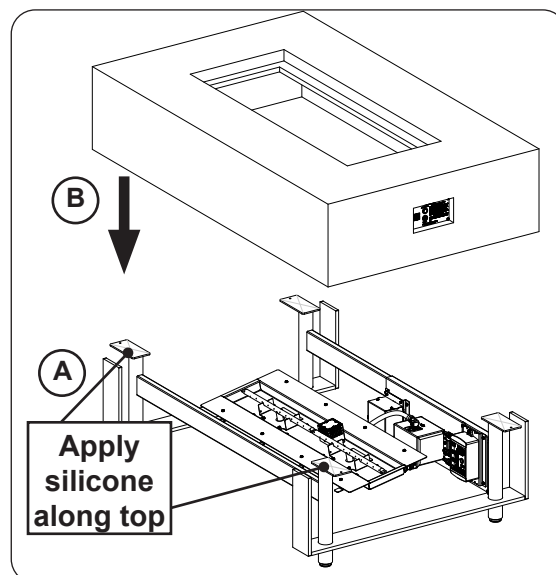

Fig. 26-1 Replace top/main unit
5. Apply silicone at the four posts, and replace the top/main unit (see Fig. 26-1).